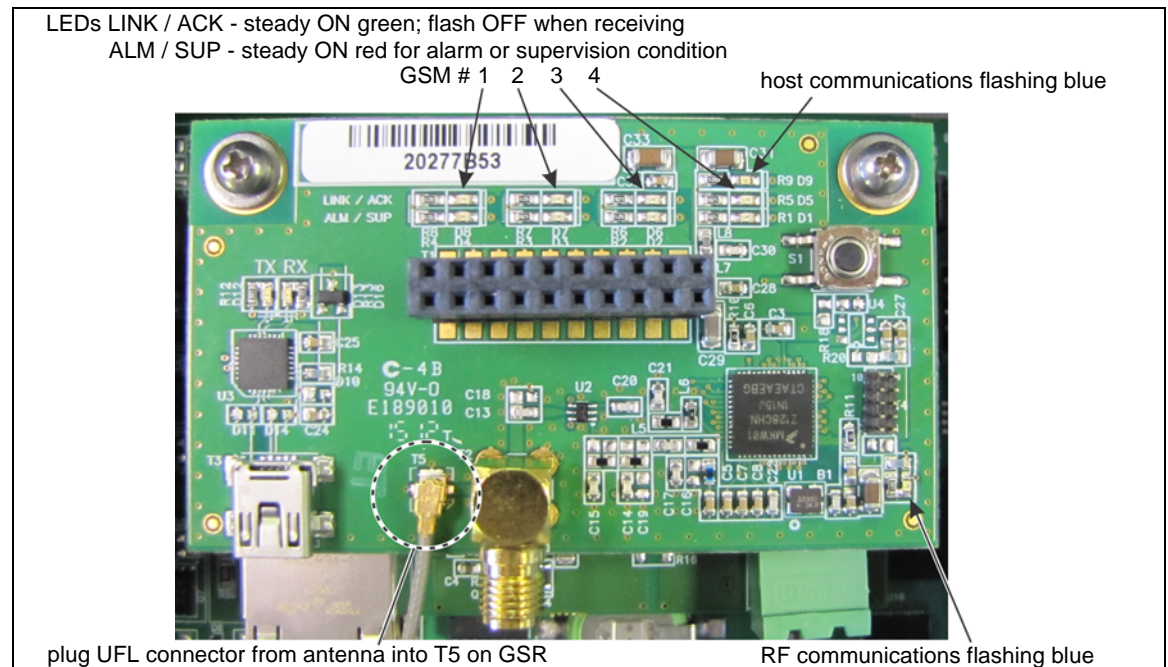

Figure 2 GSR LEDs & antenna connection
The GSR mounts onto the expansion header (T2) on the FlexZone processor, either by piggy-backing onto the network interface card (NIC) or directly onto the header if the processor does not include a NIC. The FlexZone processor powers and communicates with the receiver through the expansion header. Figure 2 illustrates the LED indicators and the antenna connection for the GSR.
3. Connect the antenna to the receiver (see Figure 2).
4. Connect the antenna to the receiver (see Figure 2).
6. Connect the UFL connector on the antenna wire to T5 on the receiver (see Figure 2).